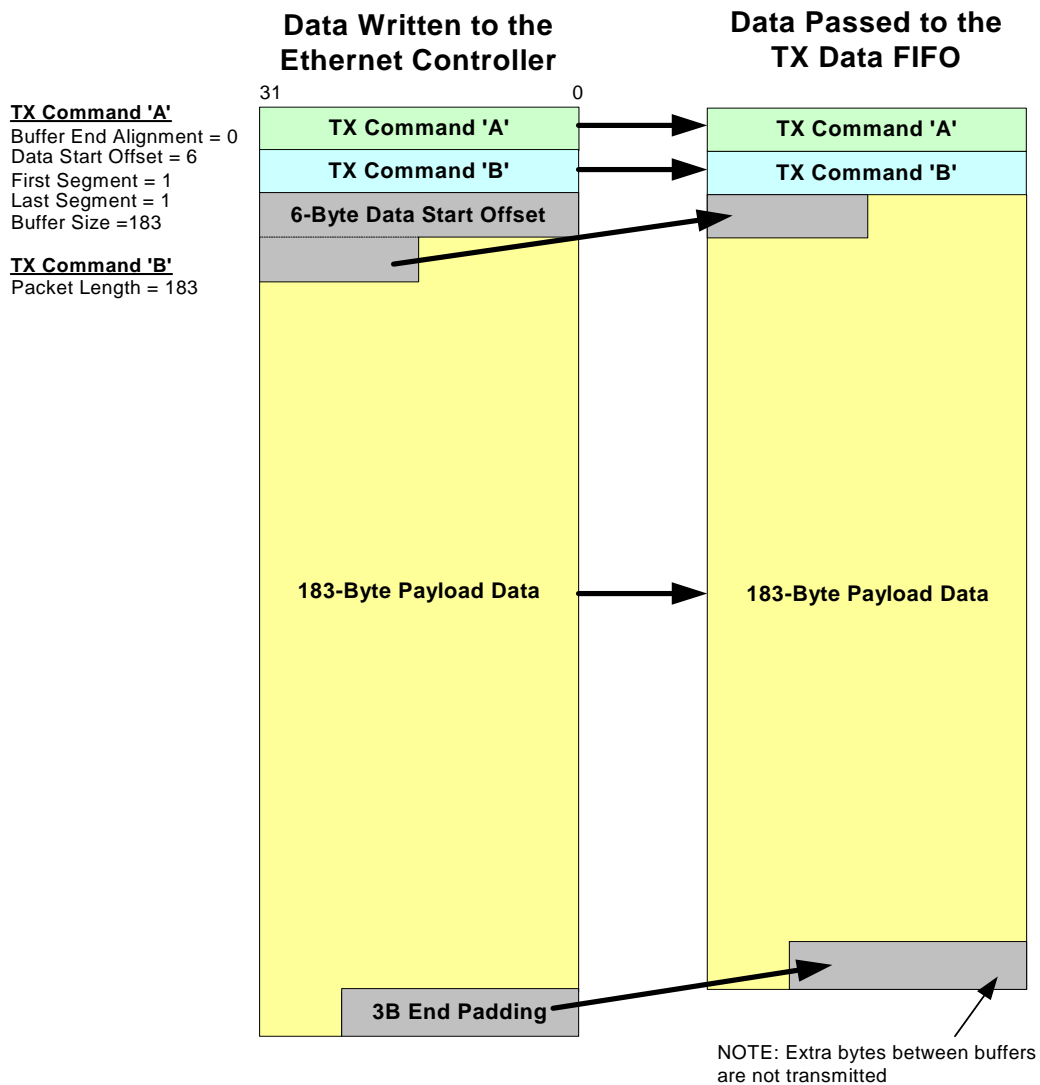

Figure 3.16 TX Example 2
**Note 3.16** The LAN9115 host bus interface supports 16-bit bus transfers; internally, all data paths are 32-bits wide. Figure 3.15 and Figure 3.16 describe the host write ordering for pairs of atomic 16-bit transactions.
Figure 3.16, "TX Example 2" illustrates the TX command structure for this example, and also shows how data is passed to the TX data FIFO. Note that the packet resides in a single TX Buffer, therefore both the FS and LS bits are set in TX command 'A'.